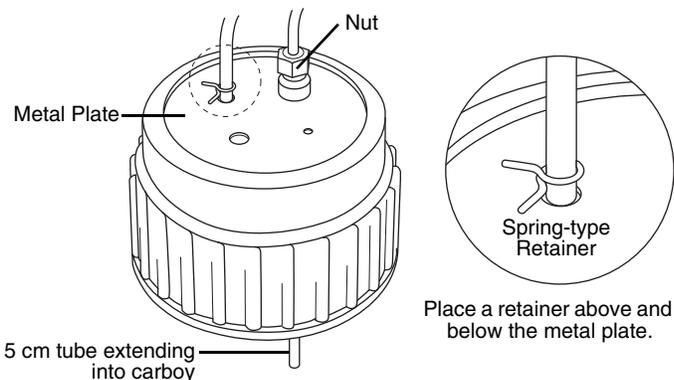

Figure 2-15 Optional Waste Cap (83B cap shown)
8. Place the metal plate inside the plastic cap (Figure 2-15). The plate should be oriented so that the small tube will extend into the carboy. The small tube should extend 5 ± 0.5 cm long from nut. If the tube is missing, insert it now and finger-tighten the nut.